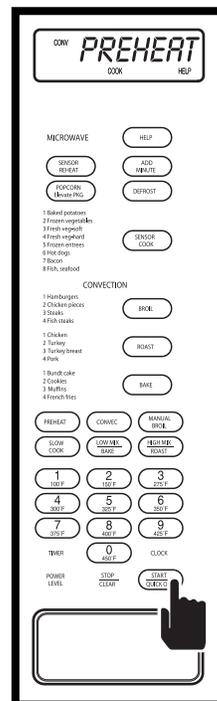

Figure 3-97.
4. Press the QUICK ON/START key. Oven will pre-heat to 450°F. When oven reaches programmed temperature, oven will beep 4 times. (See Figure 3-97)